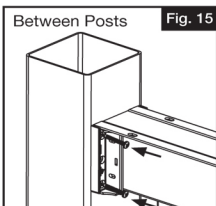

Fig. 15
- Tightly install screws (Fig. 15 & 16).